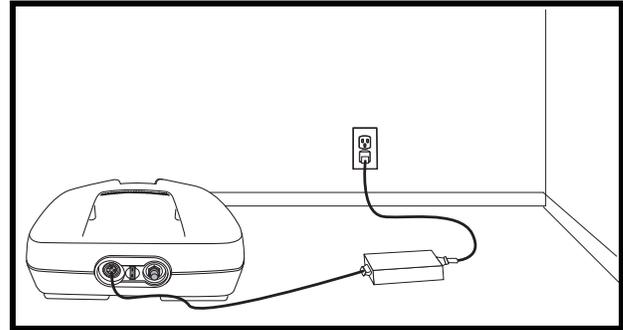

Figure 12. Charging The Batteries (Battery Pack Removed)
1. Position your Travel Scooter or battery pack close to a standard electrical outlet. **See figure 12.**